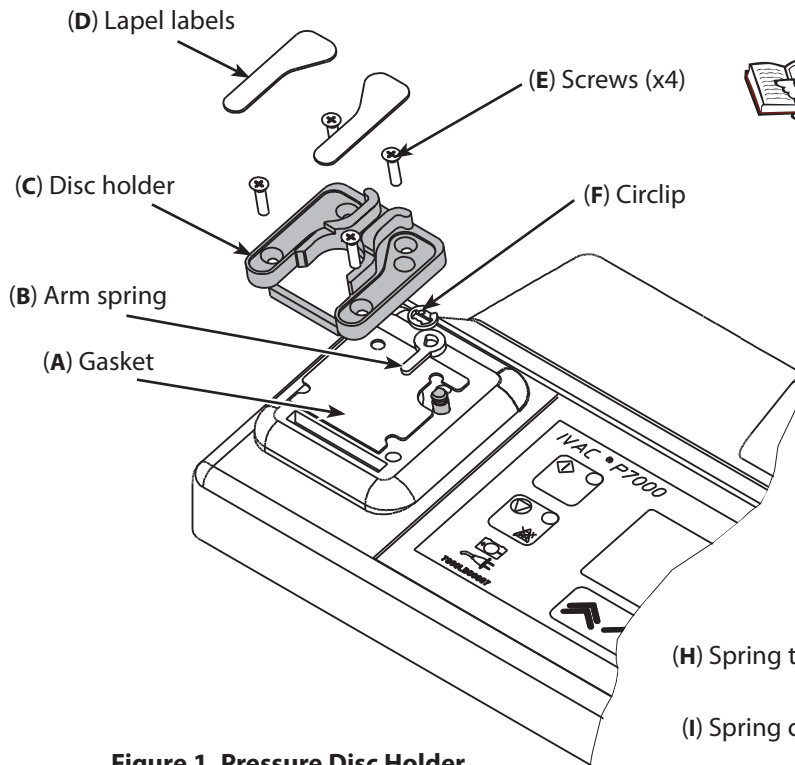

Figure 1. Pressure Disc Holder
1. Remove the two lapel labels from the outside of the upper case, as shown in Figure 1.